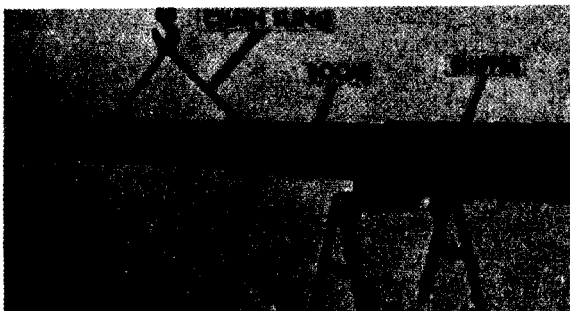

Figure 428. Removing boom from shipper
- (5) Pull boom (fig. 428) from shipper only far enough to attach a chain sling, attach sling, and support with overhead hoisting equipment.